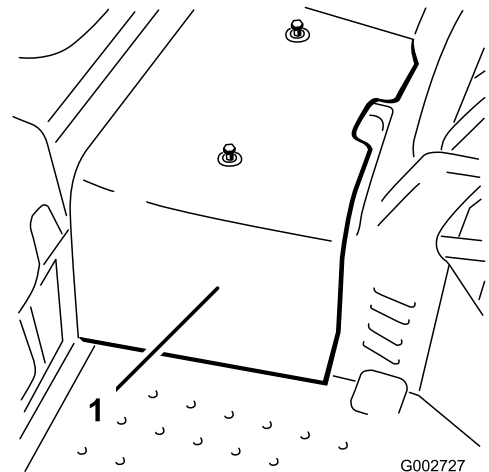

Figure 34
2. Loosen the 2 screws securing the center shroud to the machine and remove the shroud (Figure 34).